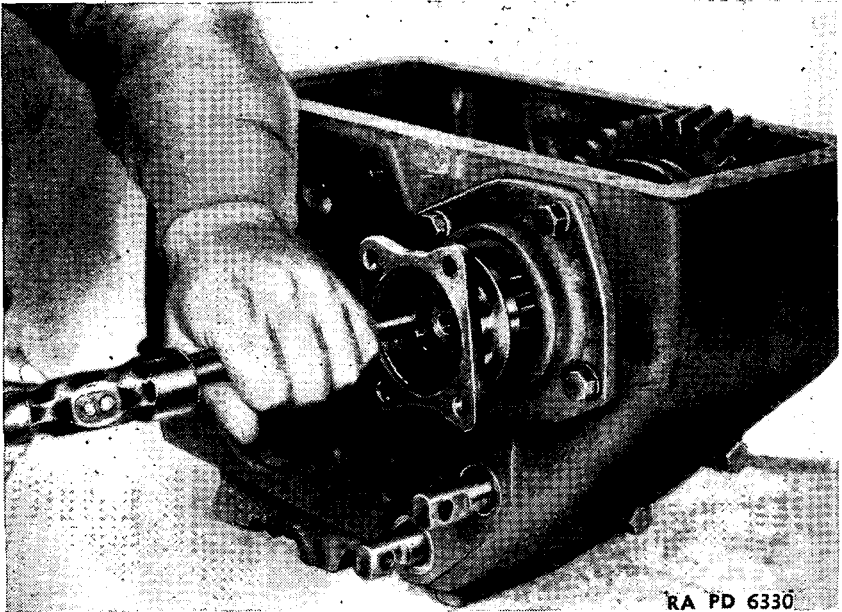

FIGURE 141.—Transfer case front-drive shaft companion flange replacement.
(19) Replace front-drive shaft rear bearing cap— $\frac{5}{8}$ -inch socket wrench. Replace cap and shims with two long and two short cap screws and four lock washers.
(20) Replace front-drive shaft companion flange—brass drift, hammer, pliers, $\frac{1}{2}$ -inch socket wrench. Drive flange on front end of shaft and replace washer, nut, and cotter pin (fig. 141).